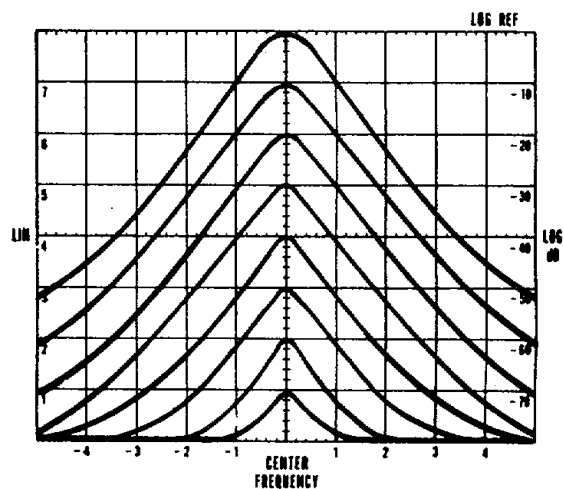

Figure 4-2. Vertical Gain Adjustment
- g. Adjust the LOG REF LEVEL controls so the maximum signal amplitude is exactly on -70 dB graticule line. Rotate LOG REF LEVEL control seven steps in the clockwise direction. The amplitude of the signal should increase in increments of one division per 10-dB step. See Figure 4-2.
h. Adjust VERTICAL GAIN to place maximum signal amplitude exactly on LOG REF (top) graticule line, Figure 4-2. Repeat Steps g and h to obtain optimum adjustment of VERTICAL GAIN (increments as close to one division per 10 dB step as possible).